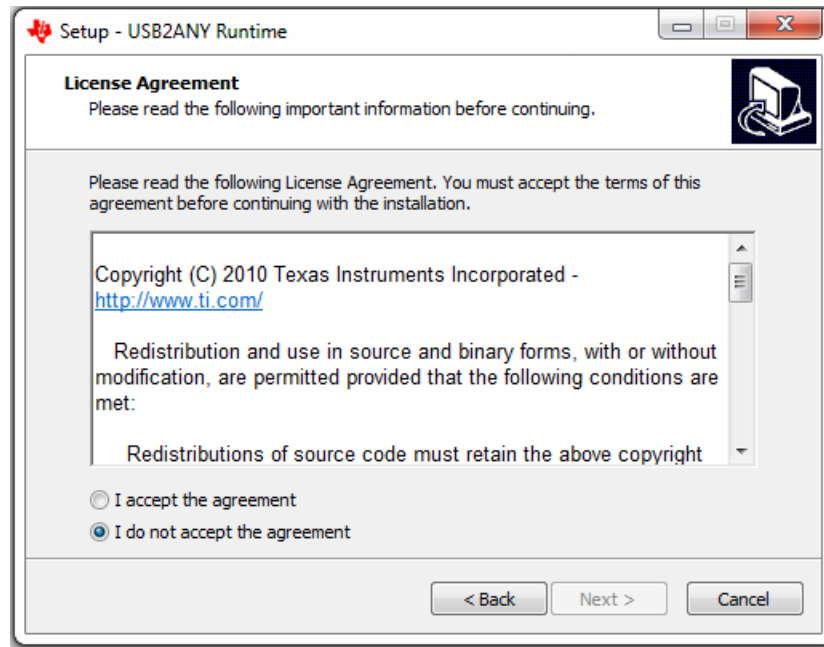

Figure 19. USB2ANY License Agreement
- The *License Agreement* appears, as shown in Figure 19. Read through the agreement carefully and enable the *I Accept the License Agreement* radio button, then press the *Next >* button.